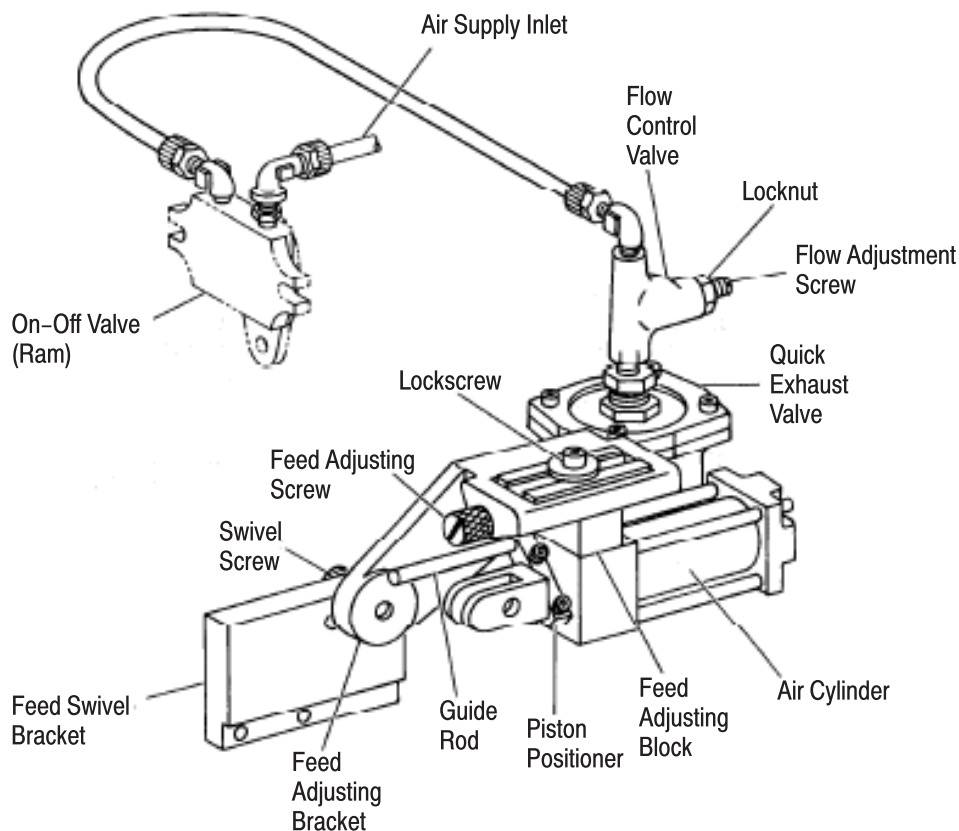

Figure 5
A. Flow Control Valve Adjustment (see Figure 5)
B. Feed Cylinder Adjustment (see Figure 5)